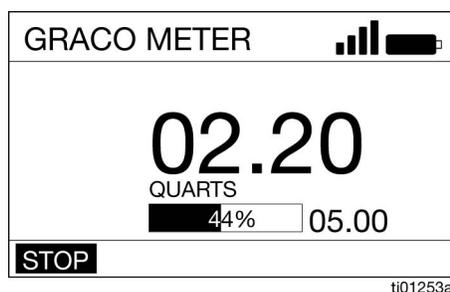

FIG. 29
3. Use the RIGHT or LEFT ARROW to select STOP (J) and press ENTER (FIG. 29).